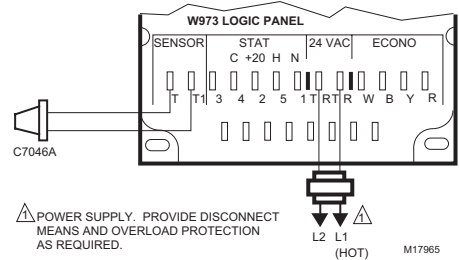

Fig. 4. Connecting C7046A Air Temperature Sensor to a W973 Single Zone Logic Panel.
1. For connections to the W973 Single Zone Logic Panel, see Fig. 4.